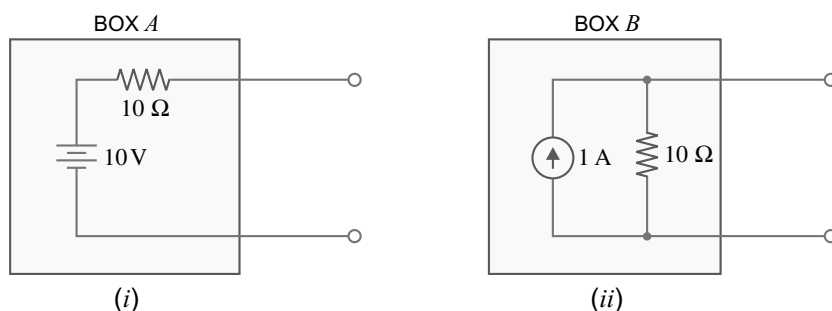

Fig. 1.52
**Q. 4.** You are given two black boxes A and B as shown in Fig. 1.52 and told that each contains a source of some type. Can you determine what is in each box?
Therefore, the boxes *appear to be identical*. The voltage source and current source of Fig. 1.52 are considered *duals*.
**Q. 5.** The voltage source and current source of Fig. 1.52 are called duals. Why is word dual used ?
**Ans.** The word dual is used because the voltage source and current source in Fig. 1.52 are not exactly equal. A black box analysis shows them to be so, but there are internal differences. For example, if both boxes are open-circuited, the voltage source delivers no energy but the current source supplies 1 A to its internal shunt resistance. Power is dissipated in the shunt resistance of current source under open-circuit conditions.